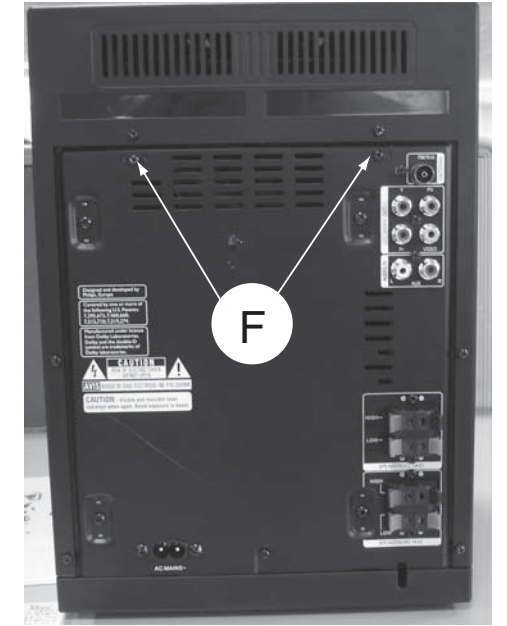

Figure 7
- 2) Loosen 2 screws "F" at the back panel as shown in figure 7.